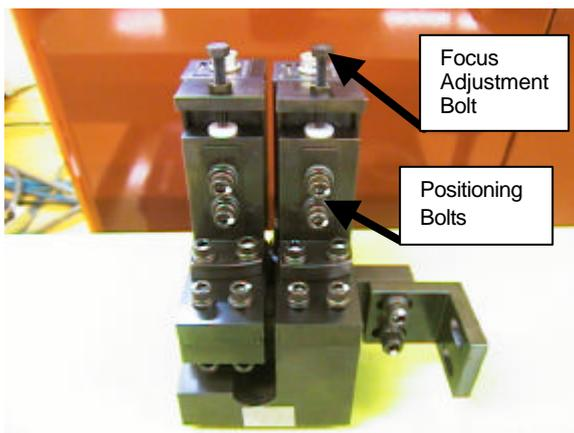

Figure 9
4. Adjust the focus of the wide camera by loosening the two positioning bolts and use the focus adjustment bolt to raise or lower the camera (see figure 9).